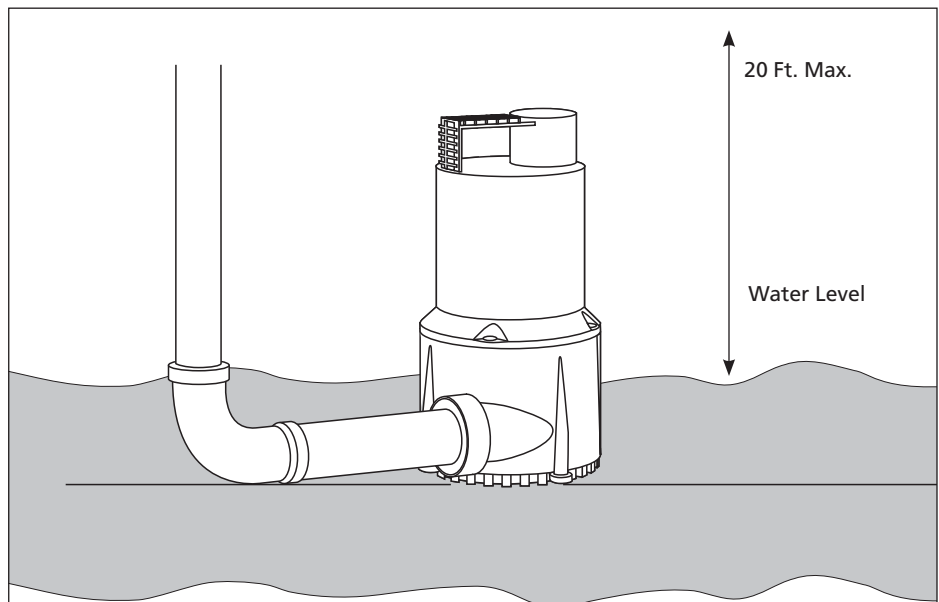

Figure 1 - Water Level
- b. Verify pumping height does NOT exceed 20 feet (See Figure 1). If pumping height is greater than 20 feet, this pump will NOT work.